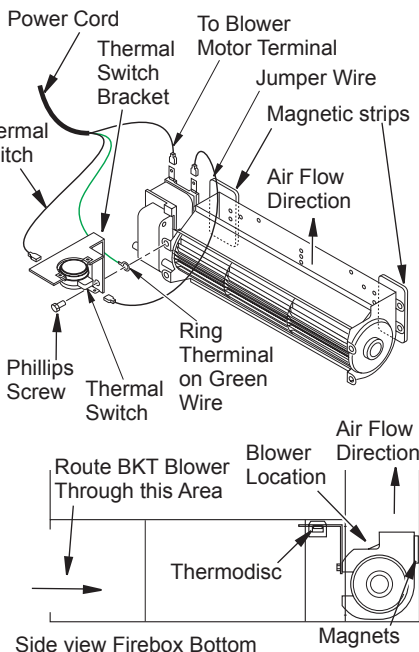

Figure 6: Blower Model BKT
1. Place the green ground wire with ring terminal between the bottom hole on the thermal switch bracket and the top ear hole on the blower assembly. Insert the phillips screw into all three pieces and tighten securely (see Figure 6).
- Place the blower against the lower rear wall of the firebox outer wrapper with the exhaust port directed upward and the thermodisc position up near the fireplace bottom. The thermodisc must be oriented near the fireplace bottom as shown in Figure 6 in order to sense temperature and properly operate. The blower will be held in position against the back wall by the magnets incorporated onto the blower housing (see Figure 6, page 4).